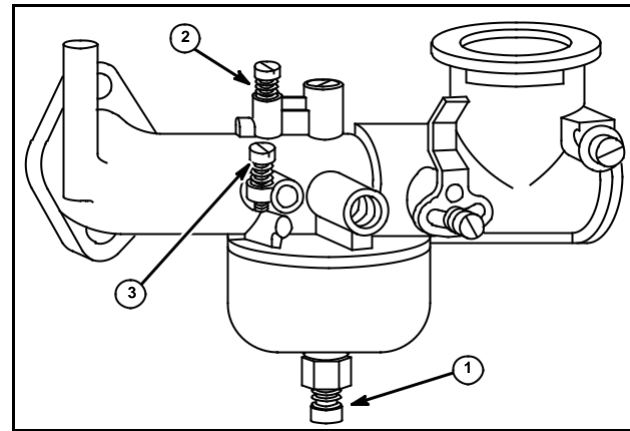

Fig. 123
The large One-Piece Flo-Jet carburetor is similar to the small One-Piece Flo-Jet. The main difference is that the main jet needle valve (1) is below fuel bowl, Fig. 123.